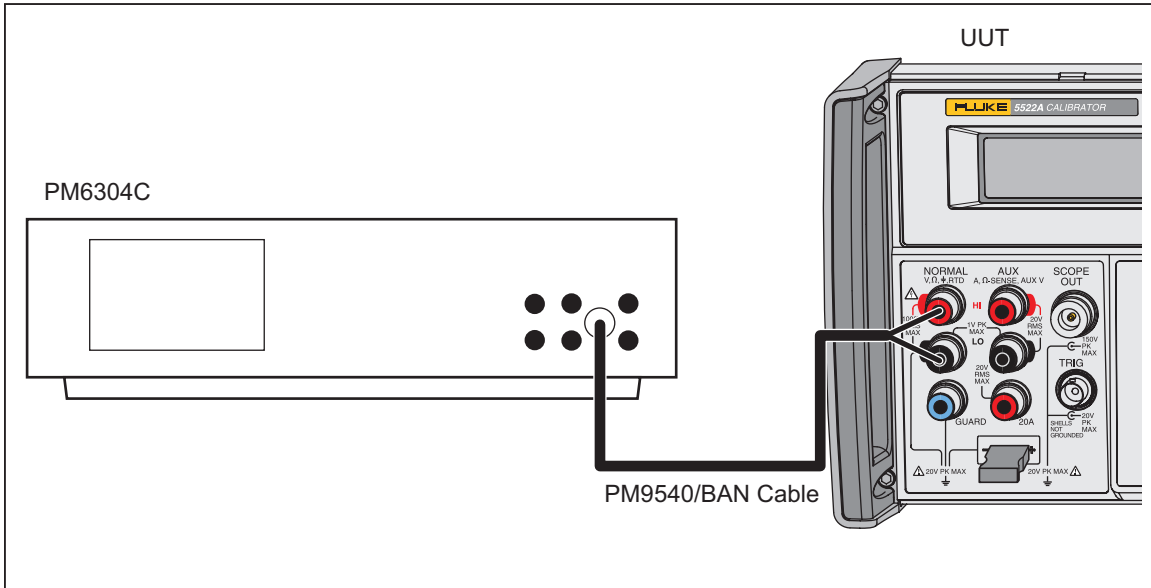

Figure 3-12. Capacitance Calibration Connection
1. Connect the UUT to the LCR meter with the Fluke PM 9540/BAN cables as shown in Figure 3-12. These special cables remove the necessity for a four-wire connection.